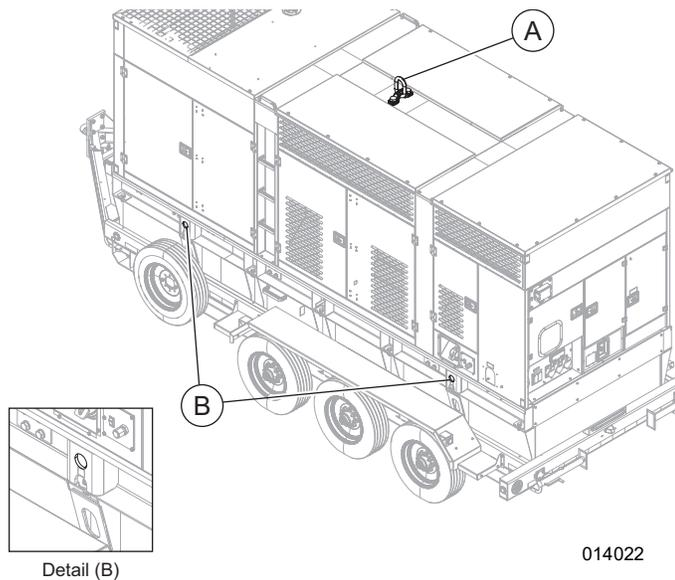

Figure 3-18. Trailer-Mounted Unit
4. See Figure 3-18. For a single lift point, attach hook to lift eye (A). For multi-lift point, use spreader bars and lift chains that are appropriately rated for this machine. Attach chain to 4 point lift eyes (B). See unit dimensions.
See Figure 3-18 (item B) for the correct lifting points